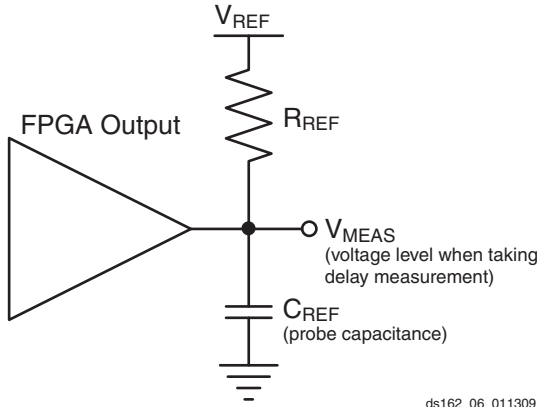
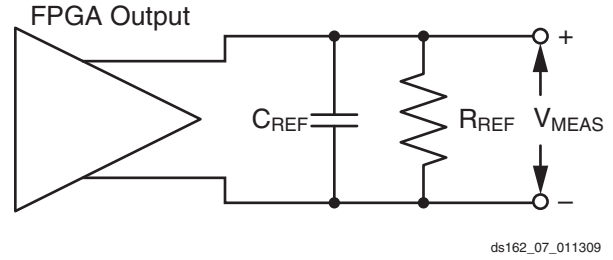

Figure 4: Single-Ended Test Setup
Figure 5: Differential Test Setup
4. This is an input voltage reference that bears no relation to the  $V_{REF} / V_{MEAS}$  parameters found in IBIS models and/or noted in Figure 4.
Output delays are measured using a Tektronix P6245 TDS500/600 probe (< 1 pF) across approximately 4" of FR4 microstrip trace. Standard termination was used for all testing. The propagation delay of the 4" trace is characterized separately and subtracted from the final measurement, and is therefore not included in the generalized test setups shown in Figure 4 and Figure 5.